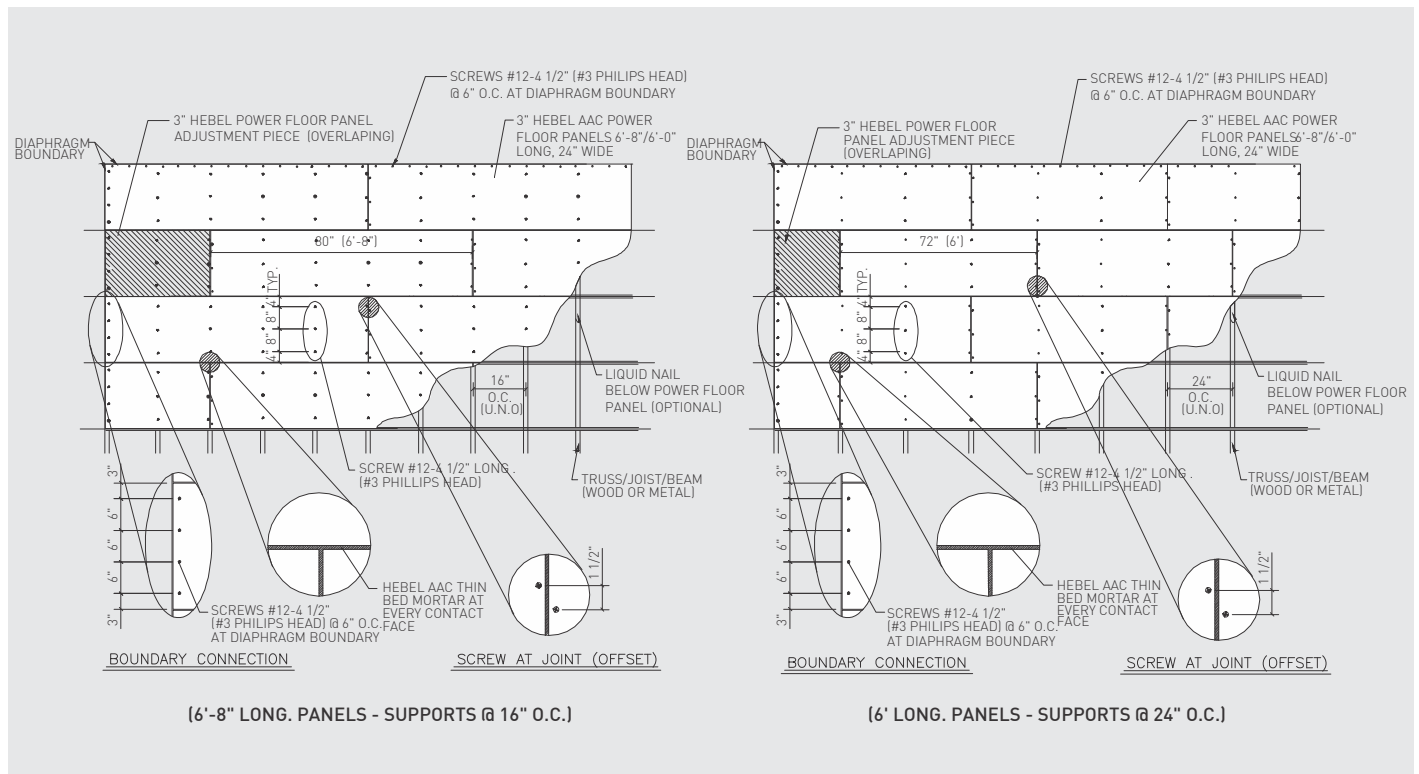

Fig. 3: Hebel® Power Floor™ System Layout
- Typical installation details are illustrated in figures 3 of this guide. These typical details are intended for general guidance only and must be substantiated for approval by the code official.
- Fasteners shall be spaced nominally 8-inches (203 mm) on-center along each joist line with edge distances as shown in Figures 3 and 4 of this report.
- Hebel® Power Floor™ Panels shall be installed over wood or steel floor joists or trusses spaced a maximum of 24-inches (610 mm) on-center. Panels shall be installed in a running bond pattern with joints staggered at least 24-inches (610 mm) as shown in Figure 3 of this report.